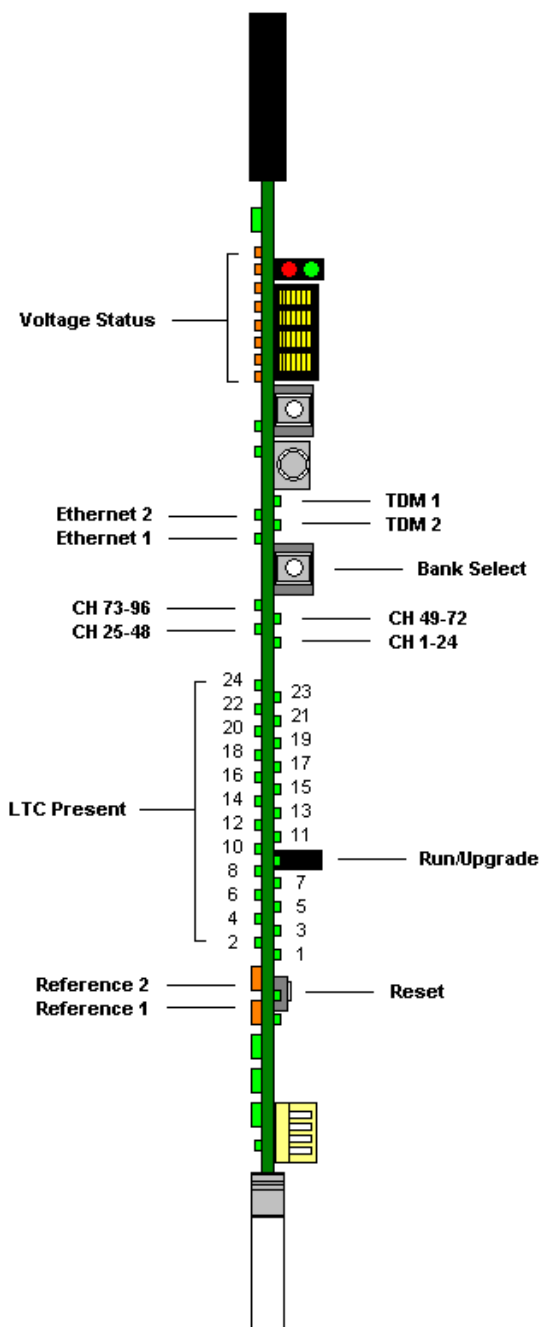

Figure 2-28: EMR-IP96 (48)-LTC Front Card Edge
The EMR-IP96 (48)-LTC front card edge has some key controls and indicators that can help in the installation and debugging processes. Figure 2-28 and Table 2-16 show the card edge and describe the expected behavior of each component. If the status indicators do not behave as described it can be a sign of installation or configuration issues.